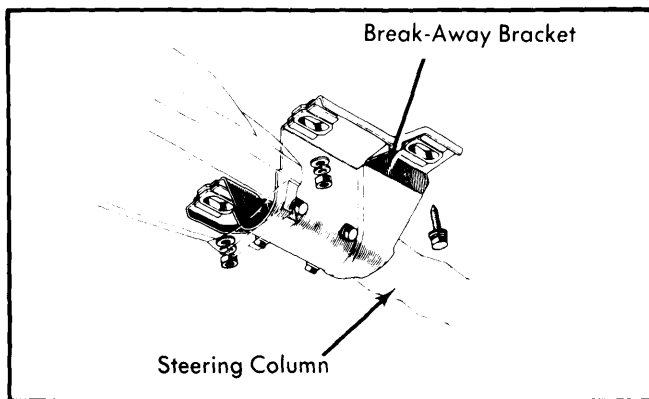

Fig. 2 Relative Position of Breakaway Bracket and Hardware
2) Remove steering wheel and turn signal switch. See *Steering Wheel and Column Switch* in STEERING Section. From inside passenger compartment, remove bolts mounting hole cover to firewall. Remove nuts and bolts mounting the break-away bracket (Fig. 2) then withdraw steering column assembly into passenger compartment and free from vehicle.